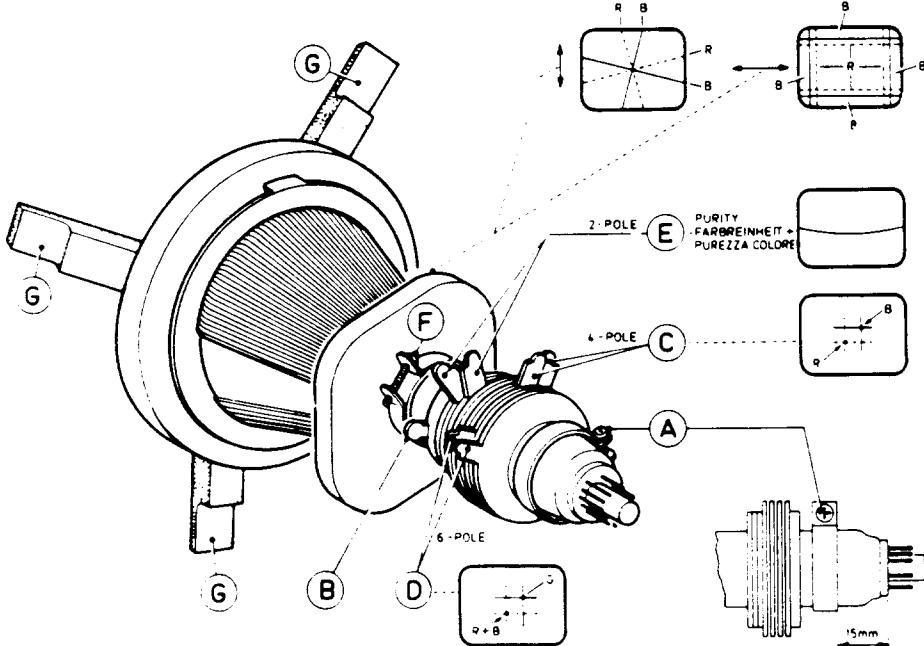

Fig. 3
- The colour purity and convergence adjustments described hereafter need only to be carried out if a completely new setting is required or if a new picture tube has been fitted. In other cases, for example after replacing the deflection unit, it will not usually be necessary to remove the rubber wedges (G in figure 3). Corrections by means of the multi-pole unit will then suffice.
- Focusing adjustment described in item 1.5 must be done prior to picture settings.
### 2.1 Colourpurity, see figure 3
### 2.2 Staticconvergence, see figure 3